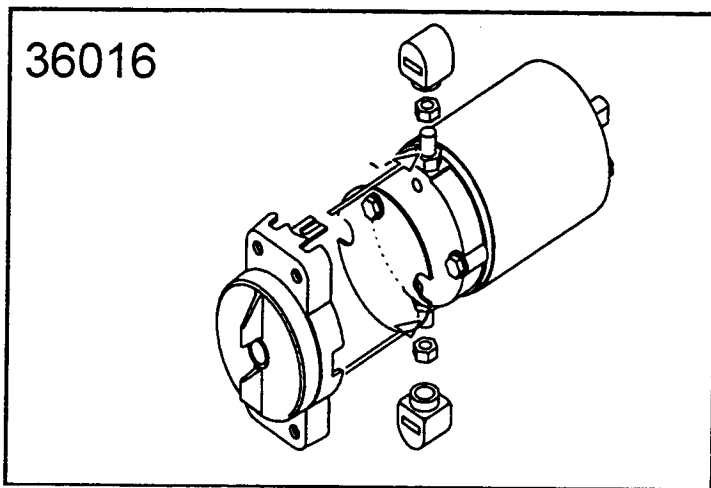
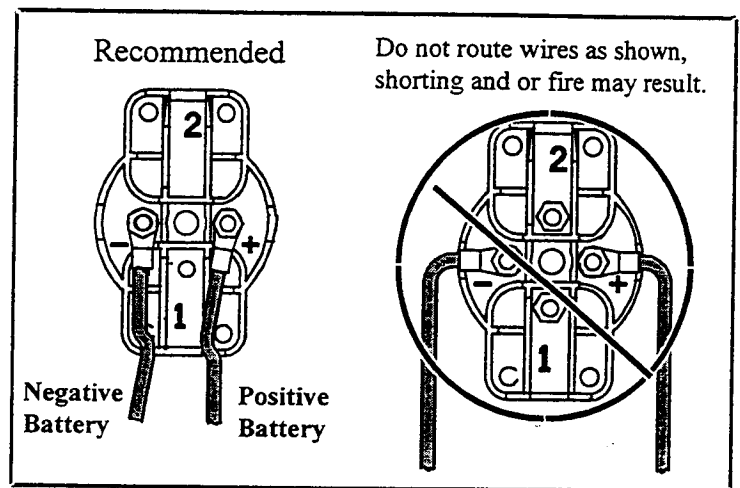

FIGURE 2-1
FIGURE 2-2
- 2a) For items 36016 refer to FIGURE 2-1 and FIGURE 2-2